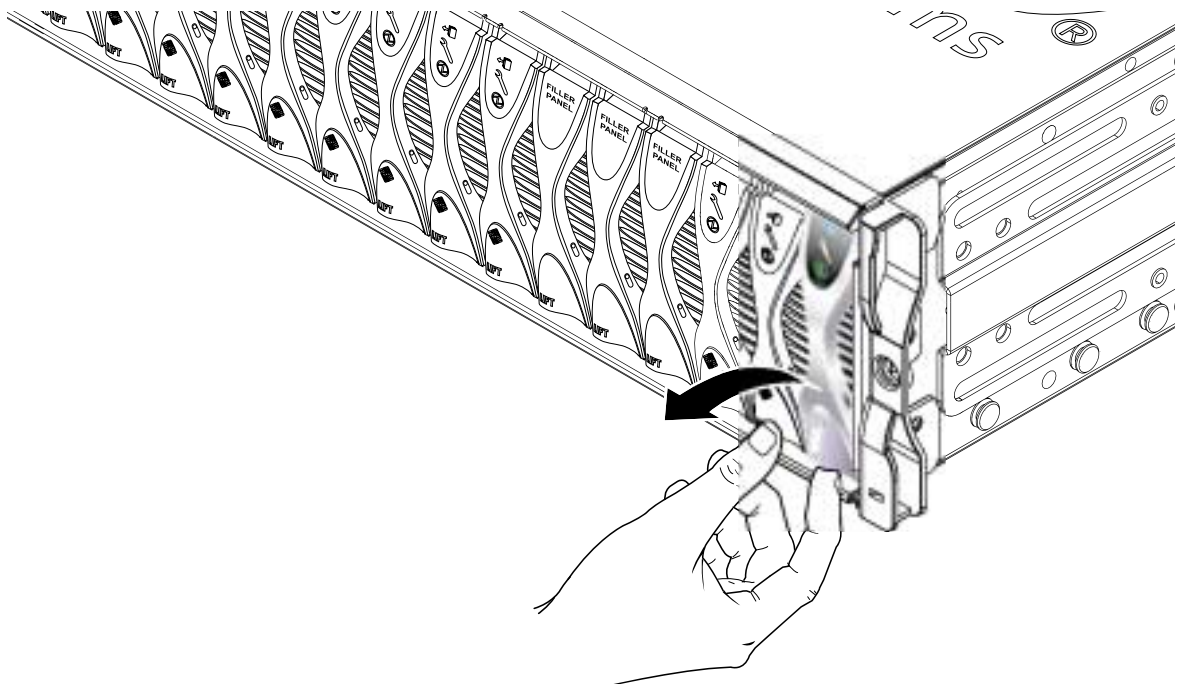

FIGURE 2-2 Disengaging the Blade-Locking Mechanism
- 2. Pull the lever mechanism in a forward and upward motion, causing the filler panel lever to unlatch and eject the filler panel partially from the system chassis (FIGURE 2-2).**